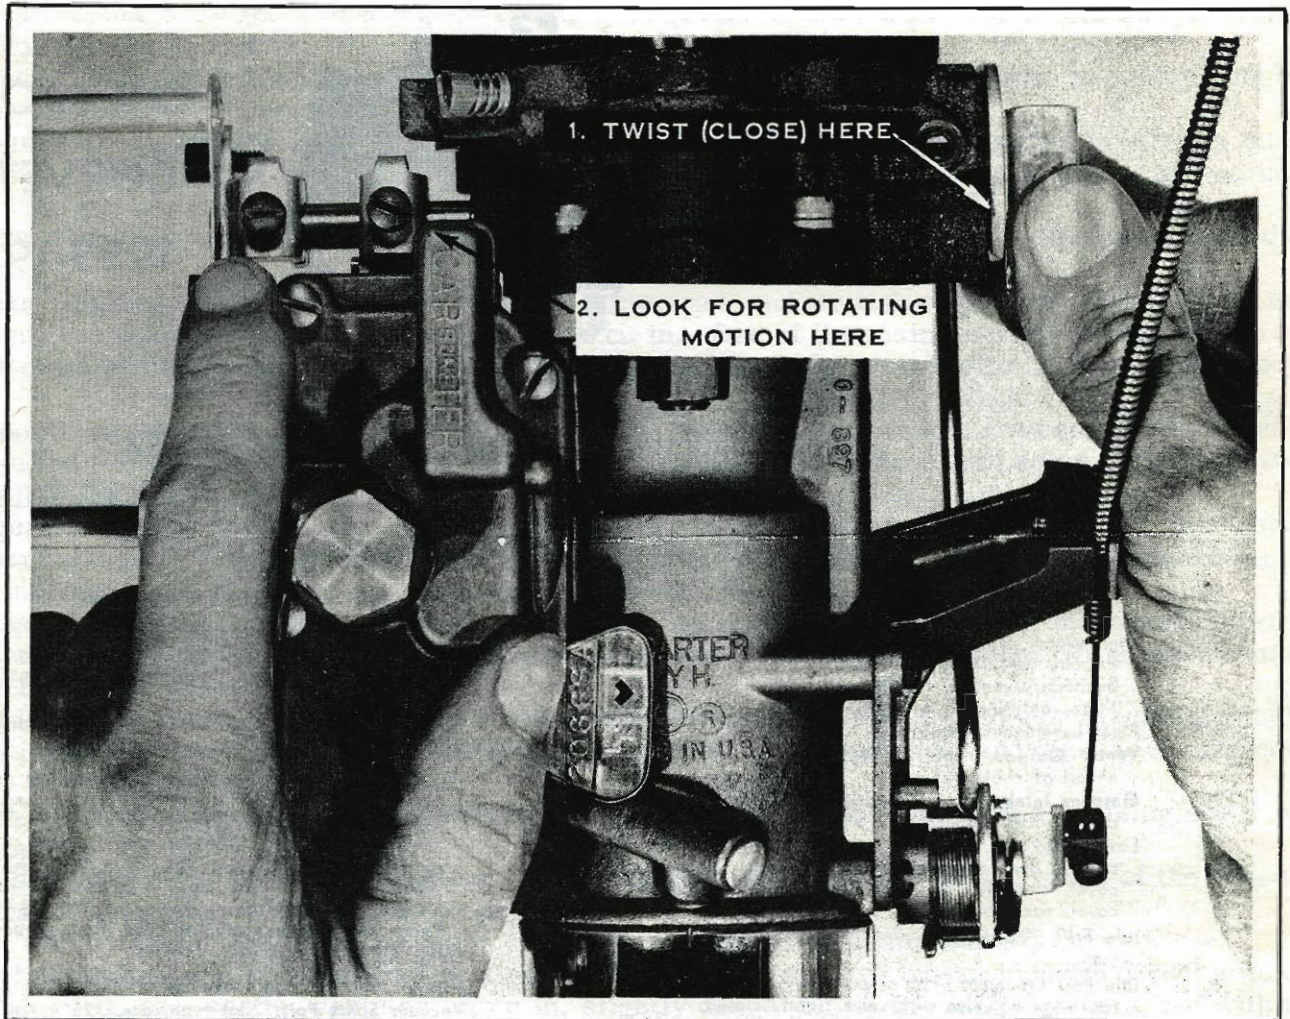

Figure 2
(1) Check the closing off of center and rear throttle valves by twisting (closing) the rear lever of rear carburetor. There should not be any visible sign of rotating motion on the front end of rear carburetor throttle shaft. See Fig. 2. Any sign of rotation is a clear indication of need for correction. **NOTE:** If correction is necessary; loosen Allen screws on rear of center carburetor. Hold throttle valve in rear carburetor closed and tighten Allen screws. If rotation is still visible, loosen Allen screws at front of rear carburetor. Hold the throttle valve in rear carburetor tightly closed and tighten Allen screws.
(2) Check closing of center and front throttle valves by twisting (closing) the front lever of front carburetor. There should not be any visible sign of rotating motion on the rear end of front carburetor throttle shaft. Any sign of rotation is a clear indication for need of correction. **NOTE:** If correction is necessary; loosen Allen screws on rear of front carburetor. Hold throttle valve in front carburetor closed and tighten Allen screws. If rotation is still visible, loosen Allen screws on front of center carburetor. Hold the